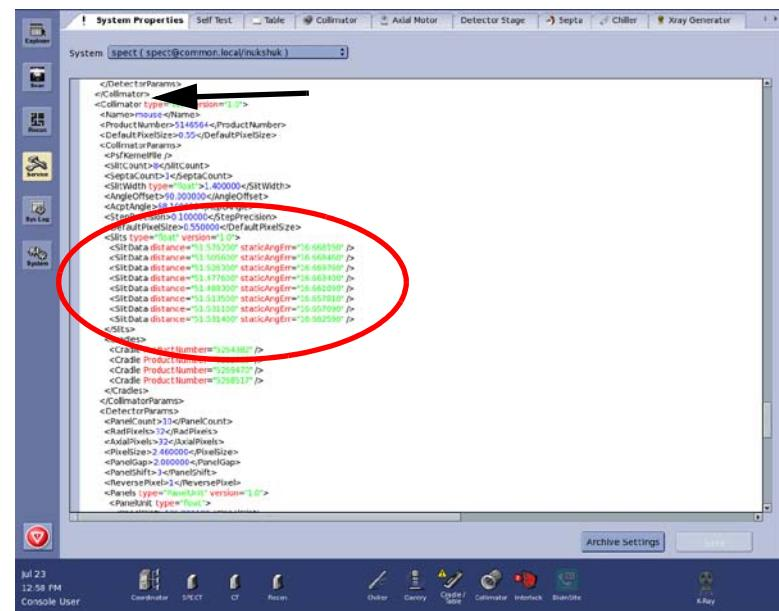

Figure 7-34
- 12.) From the System Properties page select SPECT(spect@common.local/lNUkshuk) from the dropdown and enter the Slit Data numbers, obtained from GE Healthcare in step 9, in the code found under the System Properties tab on the Service page (circled in Figure 7-34). If the parameters for the collimator being used are not listed, contact GE Healthcare for an XML template. Enter this code after the </Collimator> tag (arrow in Figure 7-34).